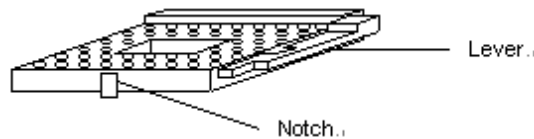

Figure 3: CPU Socket
1. Check and confirm that the jumpers are correctly set for the CPU you are going to install (figure 3).